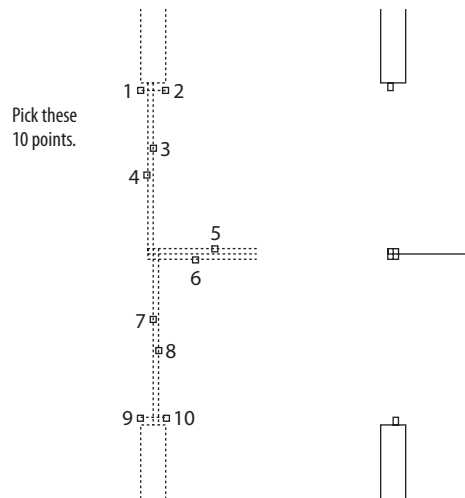

FIGURE 4.69: Lines to trim (left) and the result (right)
23. To trim the lines, pick them at the points noted on the left of Figure 4.69.
When you finish trimming, the opening should look like the right side of Figure 4.69. Be sure to press ↵ to end the TRIM command.